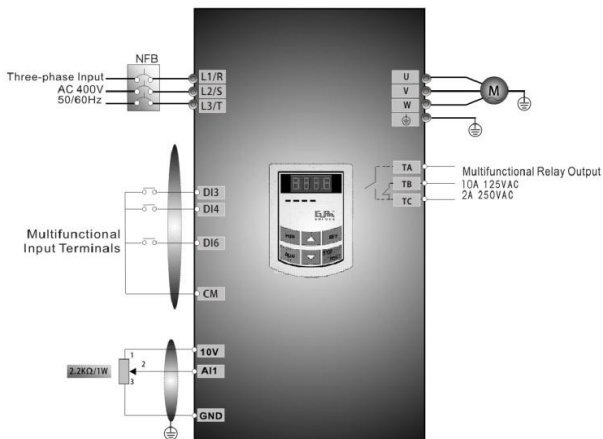

Figure 5-9 Wiring Diagram 3
(1) Connect the wires in accordance with Figure 5-9. After having checked the wiring successfully, switch on the air switch, and power on the inverter. Note: 2K~5K potentiometer may be adopted for setting external analog signals. For the cases with higher requirements for precision, please adopt precise multiturn potentiometer, and adopt shielded wire for the wire connection, with near end of the shielding layer grounded reliably.